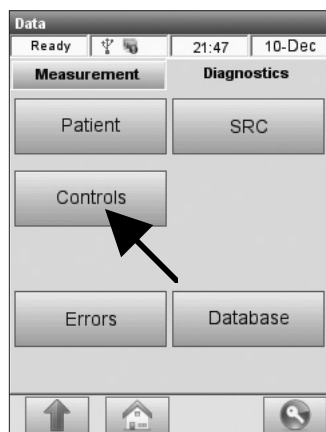

Fig. 6-21 Select Control
2. In the **<Data>** screen, press the **<Diagnostics>** tab and select **<Controls>** (Fig. 6-21).